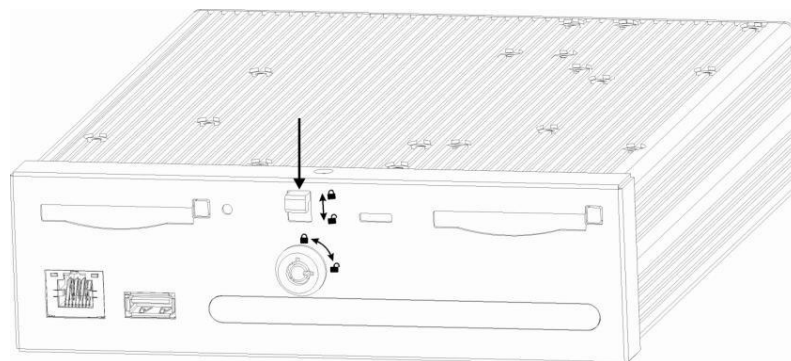

Figure 3-1
1) Unlock the CF card lock. Please insert the key to the hole and then turn clockwise to open the lock. See Figure 3-1. Please follow the arrowhead of the beeline to turn the plastic handspike.